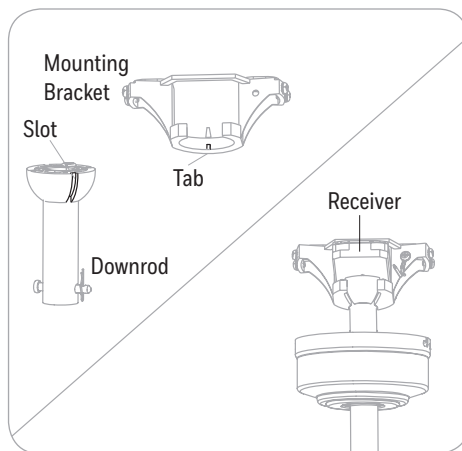

Figure 3.5
5. If you decided to cut back the lead wire in Step 3, strip 1/2 in. of insulation from the end of the white wire. Twist the stripped ends of each strand of wire within the insulation with pliers (not included) (Figure 3.5). If you did not cut back the lead wires in Step 3, Step 4 is not necessary and you may proceed to Step 5 instead.